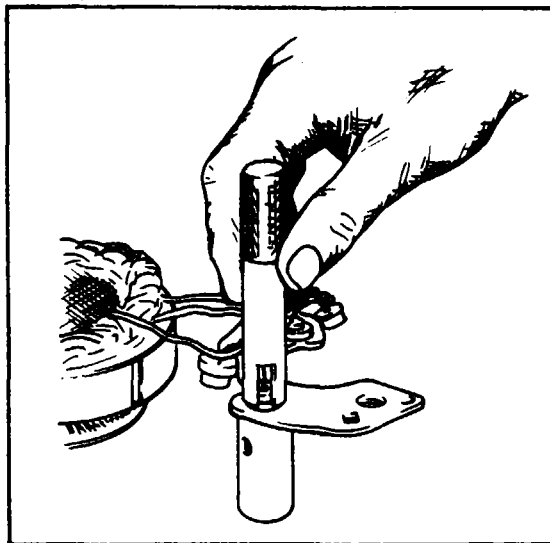

Figure 11-43. Installation of Rectifier
b. Carefully install the rectifiers in the slip ring end head or rectifier mounting plate by supporting the unit and using the special tools illustrated in Figure 11-43.